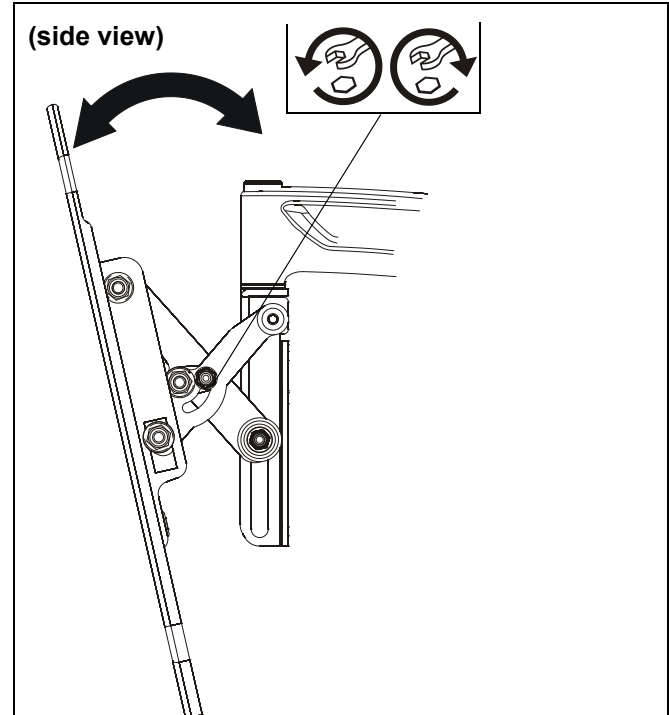

Figure 32
- Tilt display forward enough to expose screws on the side of tilting mechanism. (See Figure 32)
- Adjust tilt friction adjustment screw to increase or decrease tilt friction. (See Figure 32)